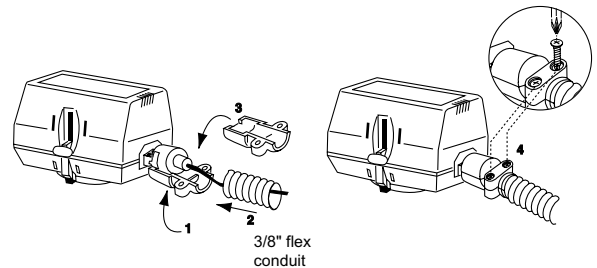

Fig. 6 - Flexible Conduit Attachment
2. Connect lead wires. See figure 6 for flexible conduit installation with plenum-cable models.